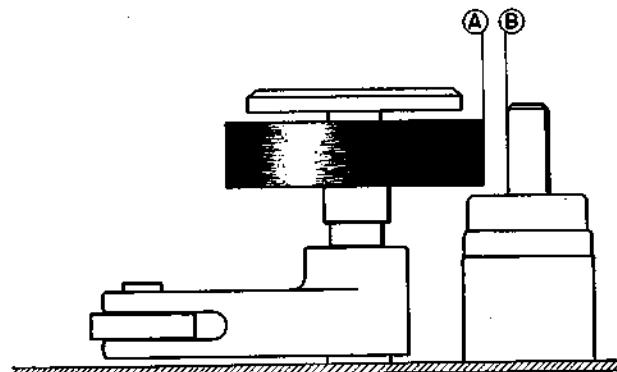

Fig. 9
Confirm the following prior to pinch wheel pressure measurement: (See Fig. 9)
The part of the pinch wheel over which the tape passes is parallel with the capstan shaft. (represented by (A) and (B) in Fig. 9)
2) In case (A) and (B) in Fig. 9 is not parallel, check for the following.